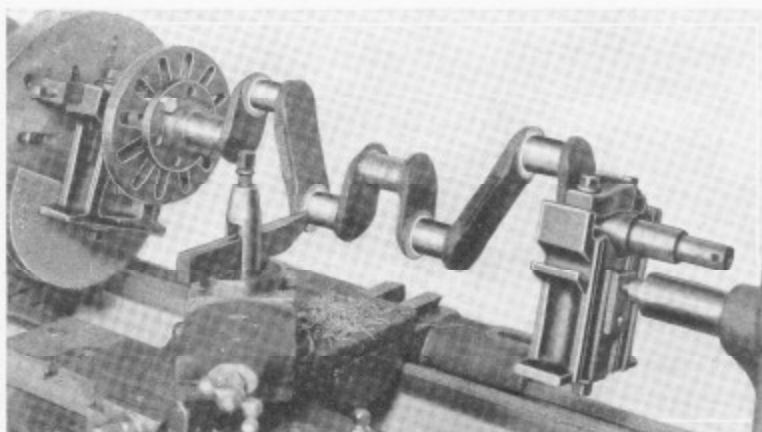

Fig. 113. Truing Crankshaft Throw Bearings using Norton Throw Centers
**Test the Throw Bearings** after the main bearings of the crankshaft are tested. These may be true in a sense and yet may be worn. The pound of the connecting rods will wear the throw bearings egg-shaped to a slight degree. The throw bearings of the crankshaft can be trued up by using the special truing tool as shown in Fig. 112, or by using a regular lathe tool and Norton centers as shown in Fig. 113.